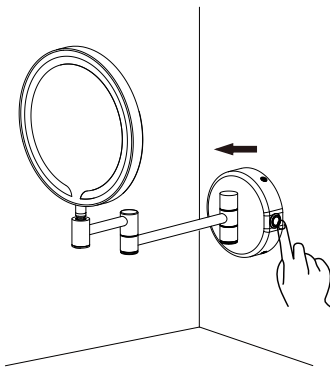

Fig.6
2.3 Finally, turn on and test the product(Fig.6).